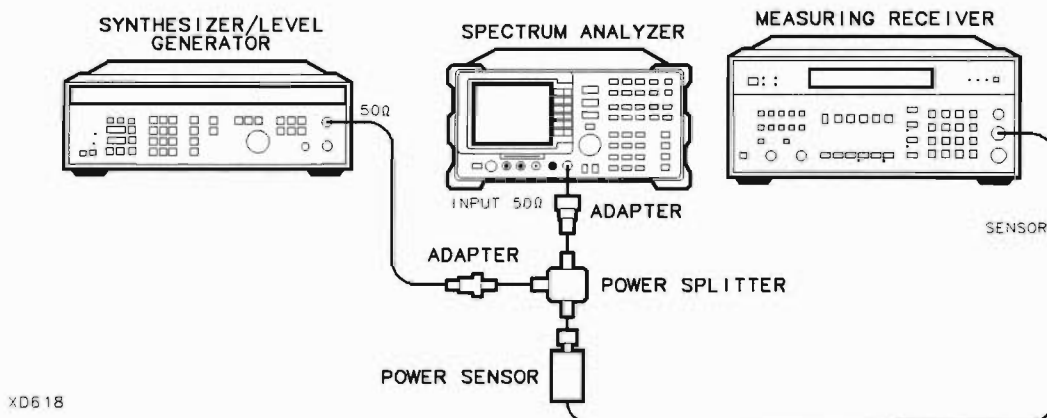

Figure 2-37. Frequency Response Test Setup, <50 MHz
34. Connect the equipment as shown if Figure 2-37, with the power sensor connected to power splitter.